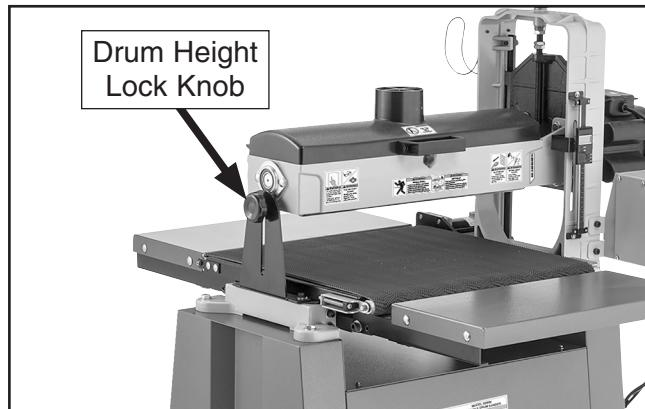

Figure 32. Drum height lock knob location.
1. Loosen drum height lock knob (see Figure 32).